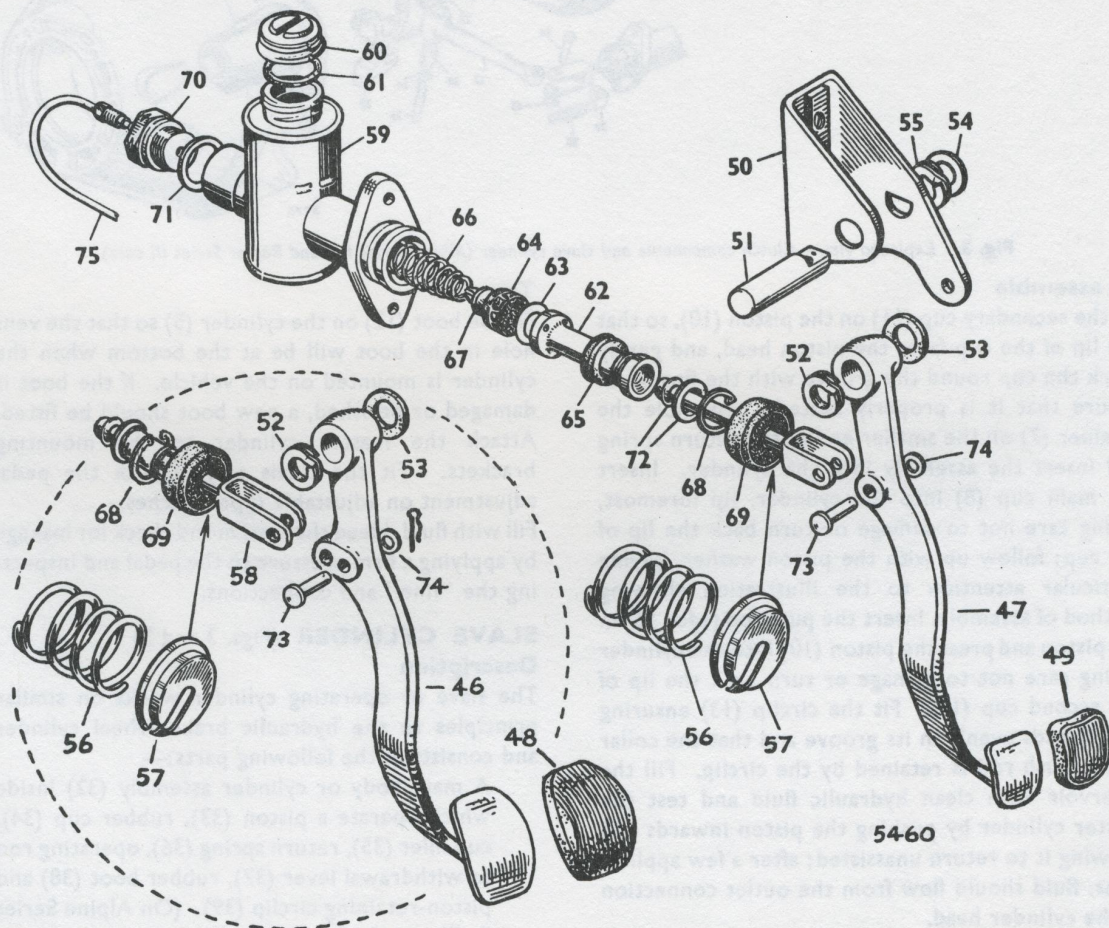

Fig. 2. Exploded view—Master cylinder and pedal linkages (Inset Alpine Series II and III cars)
Hydraulic withdrawal mechanism is employed, consisting of a master cylinder directly connected to the pedal (Fig. 2), and a hydraulic fluid pipe running to the operating cylinder, which in turn is attached by a rod to the withdrawal lever.
The pedal on Alpine Series II, III and IV cars has a two position adjustment (see inset Fig. 2). The position can be changed by securing the pedal (46) to the master cylinder push rod (58), with the clevis pin (73) in either of the two holes provided in the pedal.
To remove (Fig. 2)
Disconnect the pipe (75, Fig. 2) from the slave cylinder. Unhook the return spring at the end of the withdrawal lever and remove the slave cylinder fixing screws. The push rod (37) and boot (38) may be left attached to the car. (A return spring is not fitted to Alpine Series II, III and Rapier Series IIIA cars onwards).